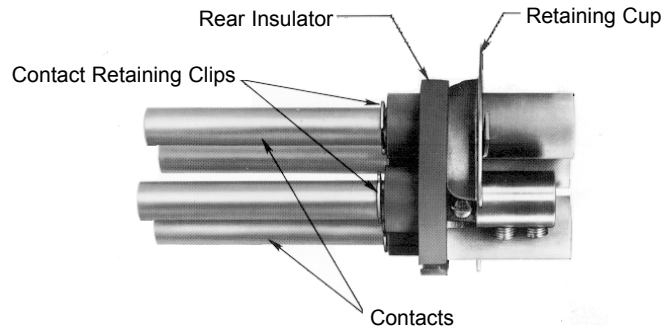

Figure 8. Retaining Clip Locations
3. Install the contact retaining clips onto each contact when fully inserted into rear insulator body. See Figure 8.